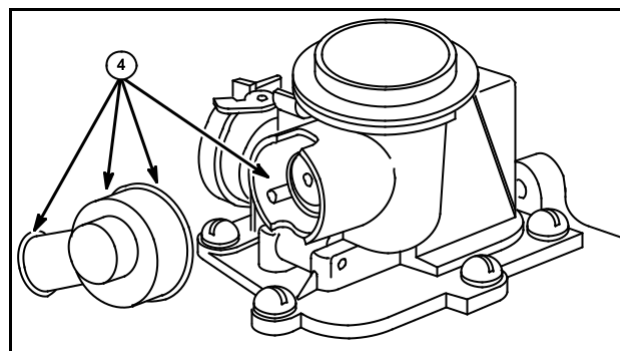

Fig. 12
Inspect bimetal spring cavity where indicated (4) for damage or debris, Fig. 12.